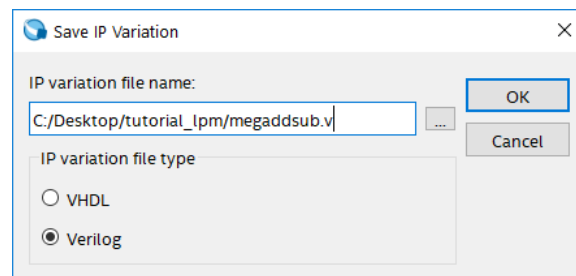

Figure 5. Create an LPM from the available library.
3. In the pop-up box shown in Figure 5, choose **Verilog** as the type of output file that should be created. The output file must be given a name; choose the name *megaddsub.v* and indicate that the file should be placed in the directory *tutorial\_lpm* as shown in the figure. Press **OK**.